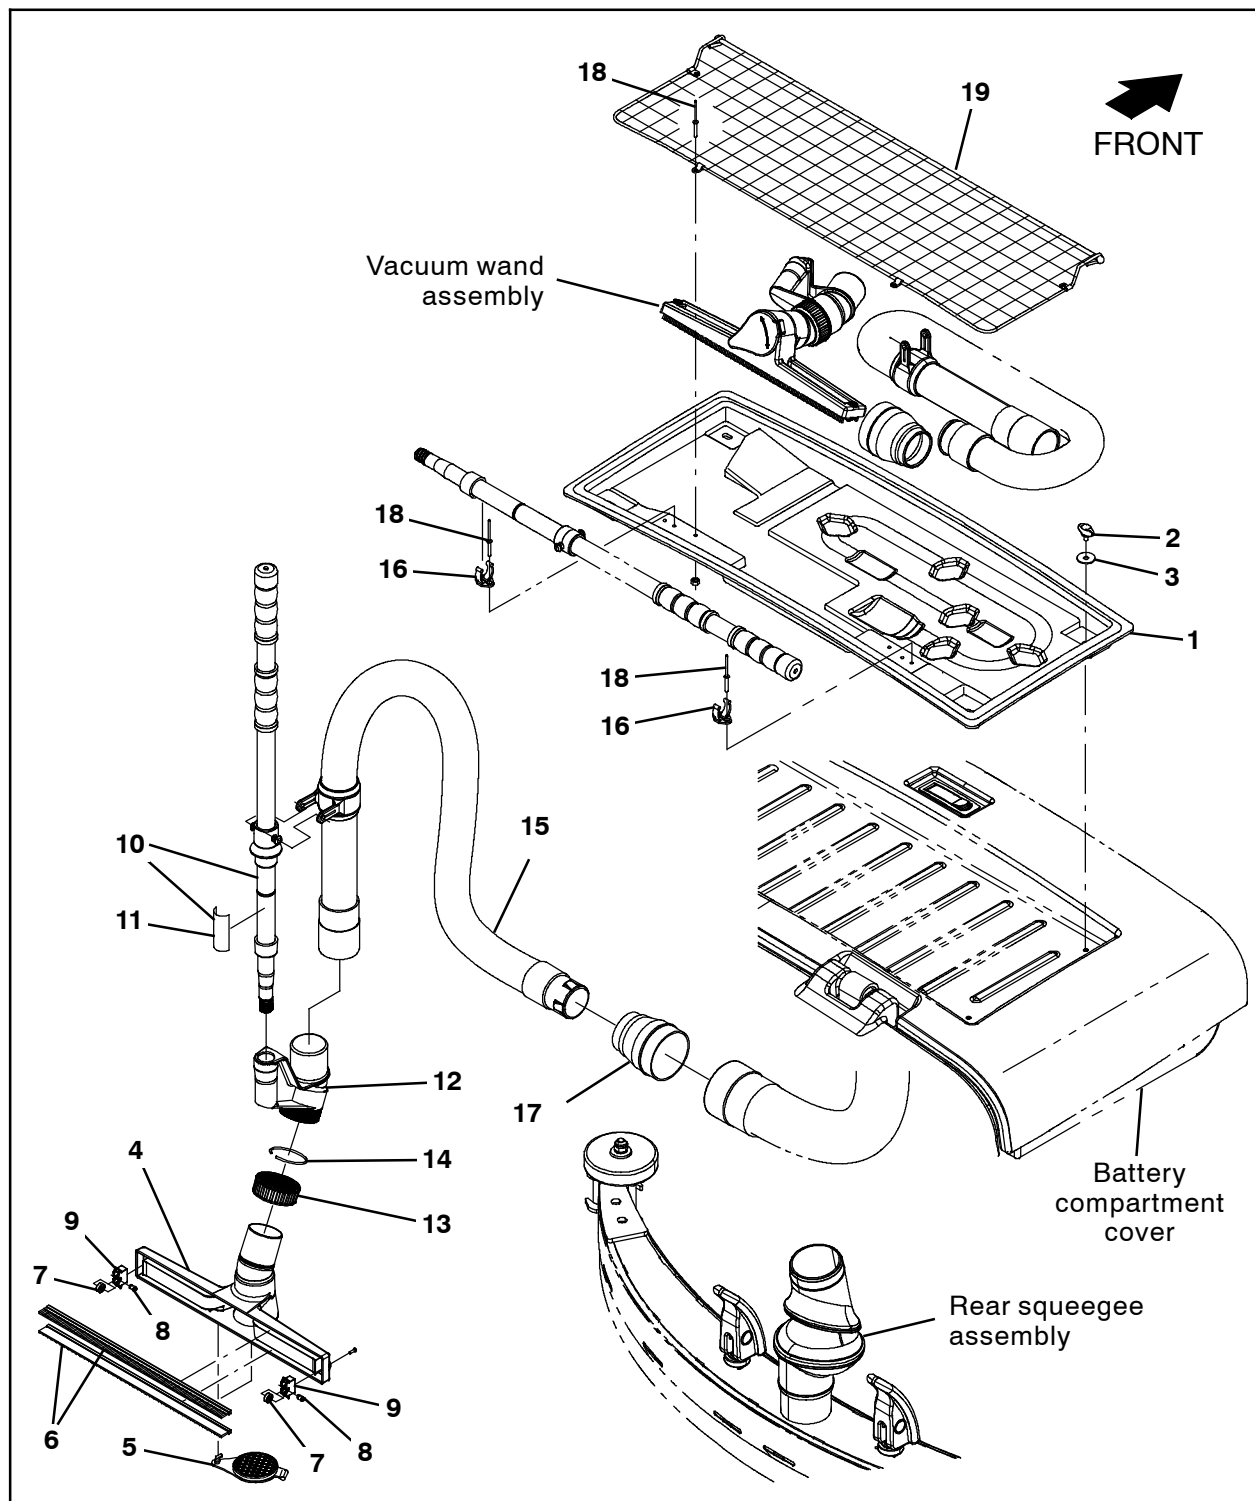

FIG. 5
10. Place the vacuum wand assembly, hose (15), and adapter cuff (17) under the mesh (19) and into the storage locations in the vacuum wand tray (1). (Fig. 5)
11. Insert the vacuum wand handle (10) into the clips (18) on the vacuum wand tray (1). (Fig. 5)